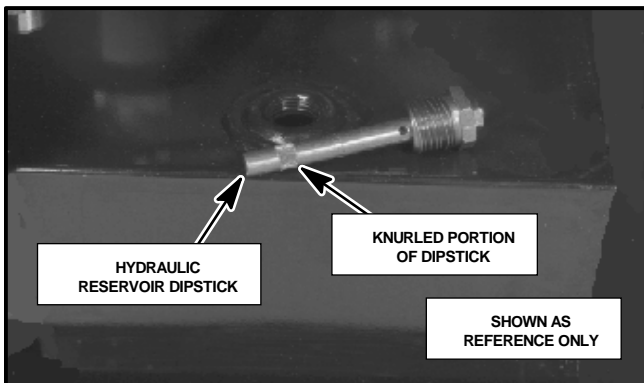

Figure 43
14. Add Ransomes Turf Protectort Biodegradable hydraulic fluid or equivalent until oil shows on the KNURLED portion of the dipstick (See Fig. 43).